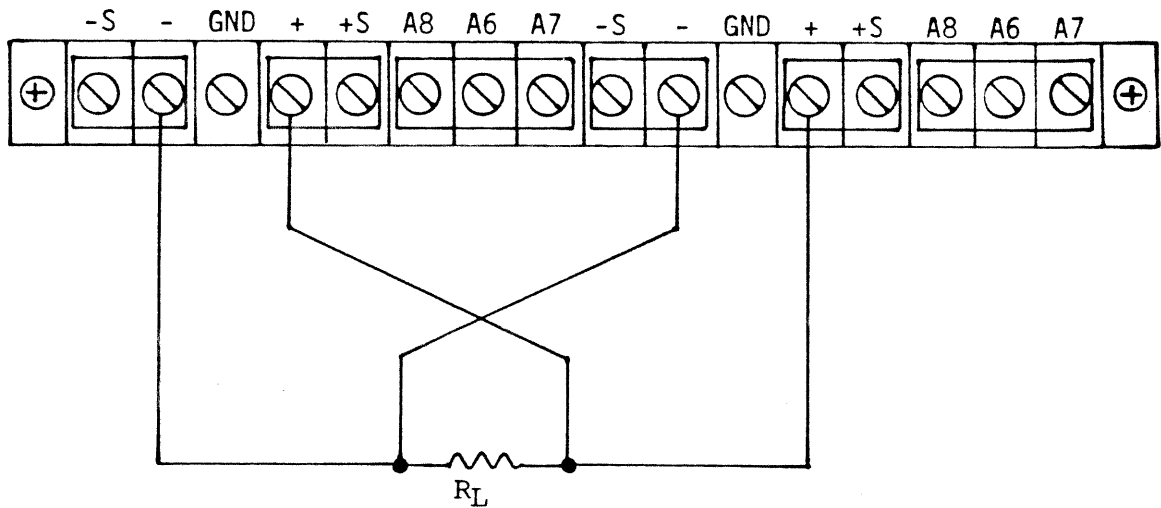

Figure 3-4. Normal Parallel Strapping
(3) Normal Parallel Operation. The normal parallel operating configuration uses two or more power supplies connected in parallel, each independently controllable at the front panel or remote programming source. In this mode, the supply with the highest voltage setting will supply all the load current until the current limit circuit activates. This will cause the voltage to decrease to the voltage level set on the parallel connected supply, which will then supply current up to its maximum rating. See figure 3-4 for strapping requirements.